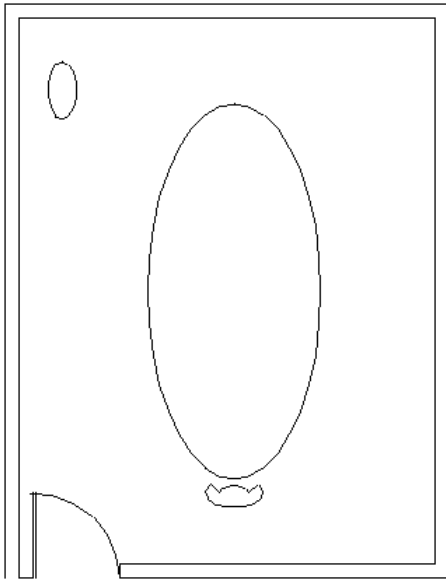

Figure 7-7: The conference room with a conference table, a chair, and a side table.
9. Save your drawing. It should look like Figure 7-7.